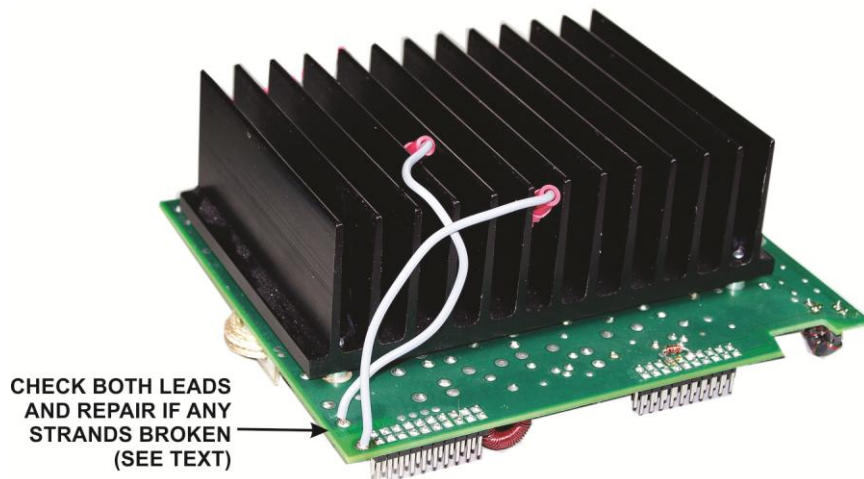

Figure 16. KPA3 Circuit Breaker Leads.
□ On the KPA3 module, inspect where the two leads to the circuit breaker connect to the board for any signs of discoloration from heat or broken wires (see Figure 16). If broken or loose strands are found, remove and re-solder the lead to the board pads. You will need to clean out the pad holes completely. The wires are a tight fit, making it easy for loose strands to be left out. Make sure all the strands are soldered in place. The wires are long enough to cut and re-strip sufficient length to pass through the solder pad.